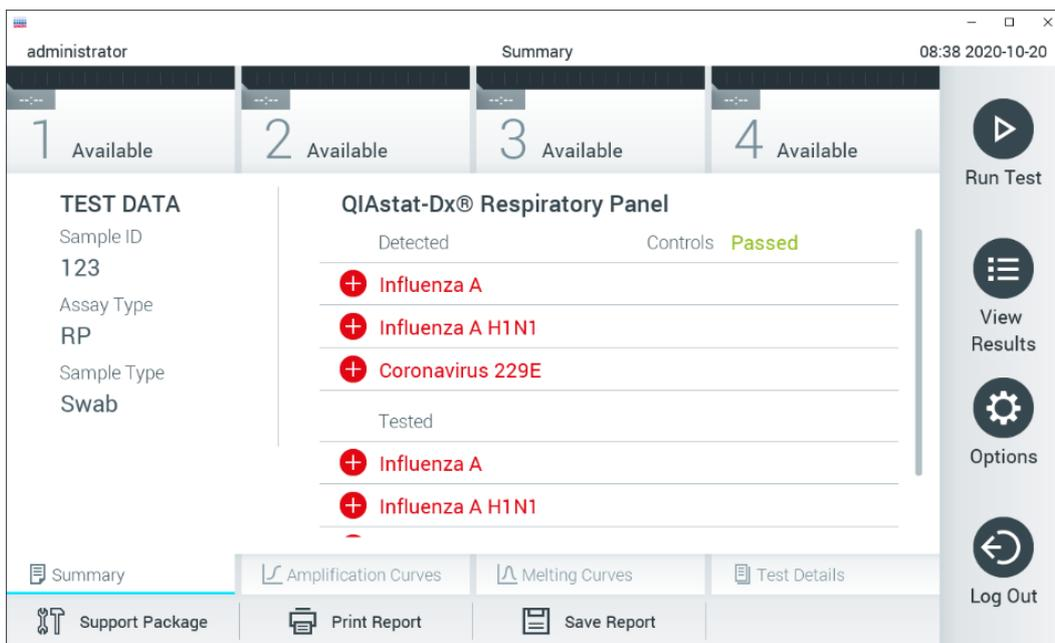

Figure 30. Results Summary screen.
11. After the QIAstat-Dx assay cartridge has been ejected, the results **Summary** screen will appear (Figure 30). Refer to Section 5.5 for further details.